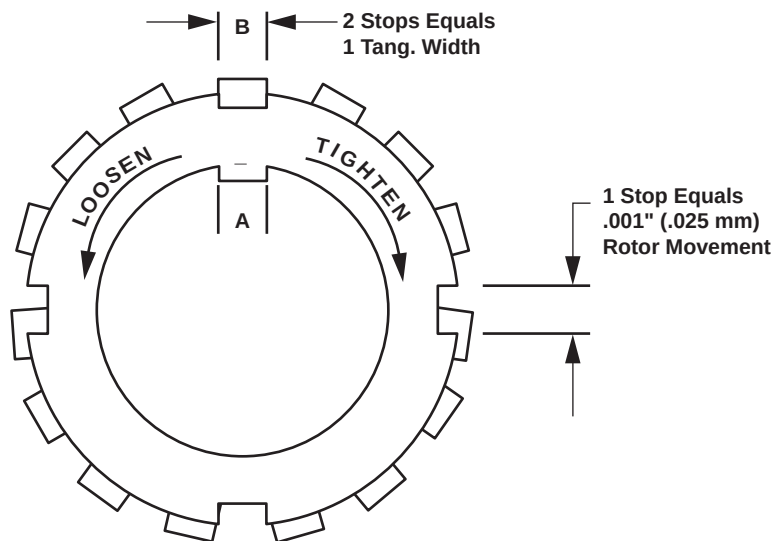

Figure 5. Vane Installation
30. Using the locknut tool, back off the bearing locknut (figure 1, item 22) the width of one lockwasher tang "B" (figure 5). Secure the bearing locknut by bending the closest aligned bearing lockwasher tang into the slot in the bearing locknut. The pump should turn freely when rotated by hand.
32. Using the locknut tool, tighten the bearing locknut (figure 1, item 31) the width of one lockwasher tang. Refer to figure 5.
33. Using the locknut tool, tighten the bearing locknut (figure 1, item 31) just past the desired tang, then back off the locknut to align the tang with the locknut slot. Refer to figure 5.
35. Check the adjustment by grasping the bearing locknut (figure 1, item 31) and the bearing lockwasher (figure 1, item 30) and rotating them back and forth. If this cannot be accomplished, one or both bearing locknuts (figure 1, item 22 or 31) are too tight. Alternately loosen the bearing locknuts one stop at a time 0.001 in. (0.0254 mm) (figure 5) until the correct adjustment is achieved.